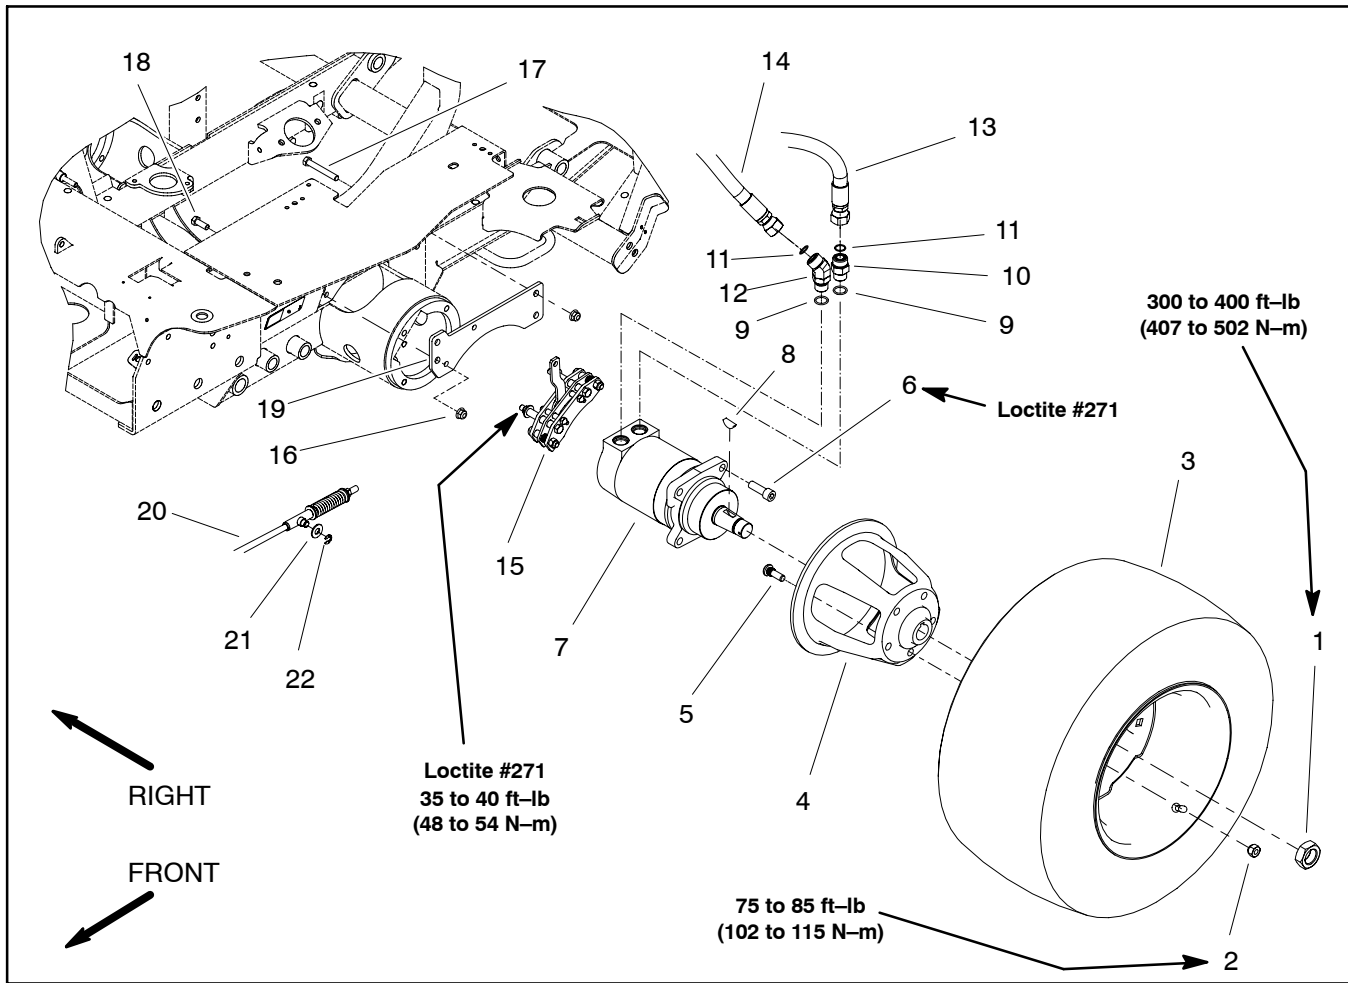

Figure 4
### Removal (Fig. 4)
**Installation (Fig. 4)**